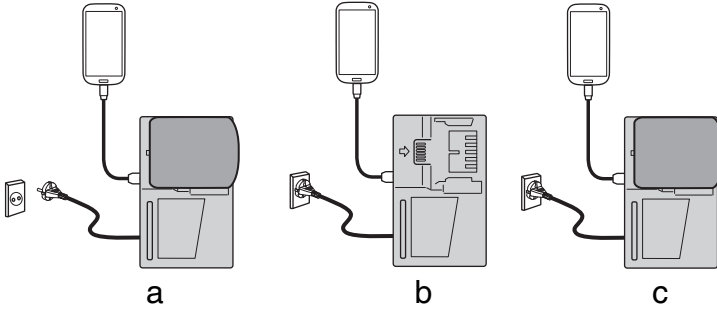

Fig. 3
- Charging a USB device by battery (Fig. 3-a)
- Charging a USB device from a electrical outlet (Fig. 3-b)
- Charging a USB device and battery from a electrical outlet (Fig. 3-c)